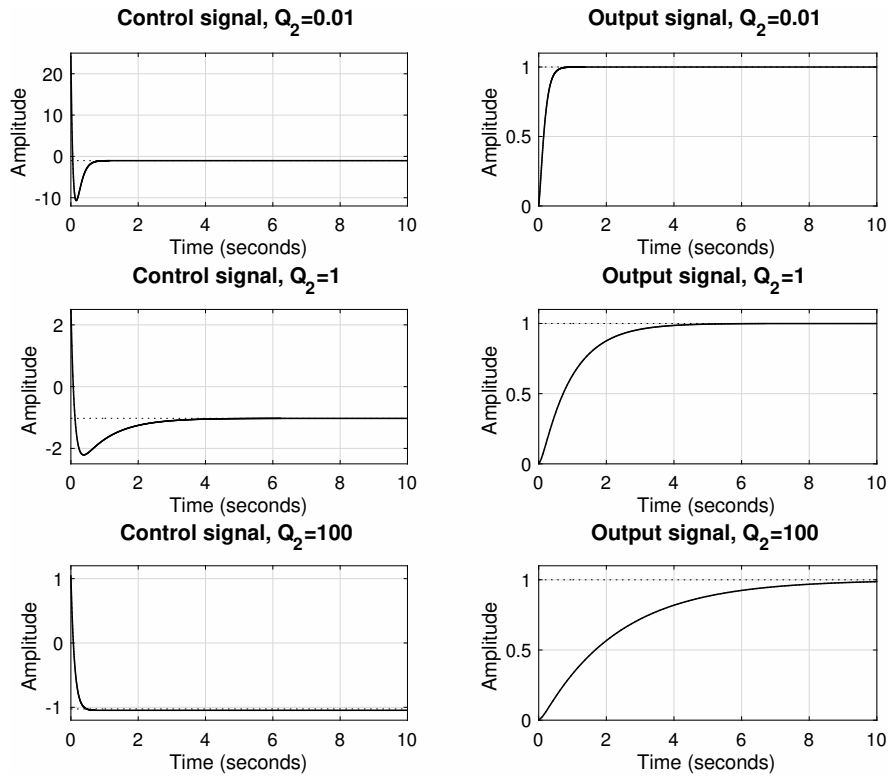

Figure 8.3 Step responses for different weight on control signal.
b. See Figure 8.3 for step responses, and Matlab code below.